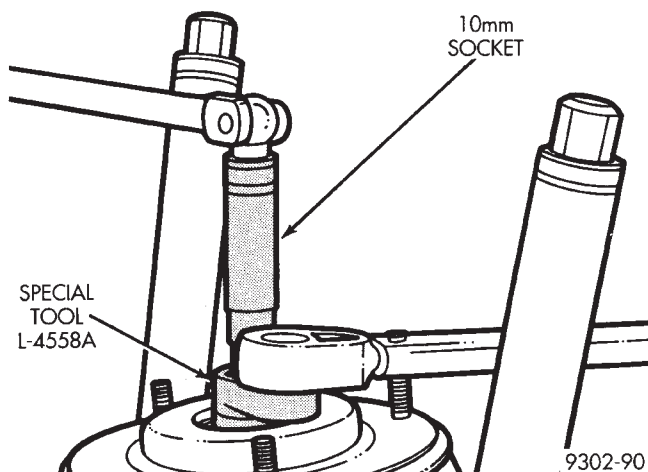

Fig. 2 Remove Strut Shaft Nut
(4) Install Strut Rod Socket, Special Tool, L-4558 or L-4558A on strut shaft nut (Fig. 2). Using a 10 mm socket on end of strut shaft to keep strut shaft from turning (Fig. 2), remove strut shaft nut.